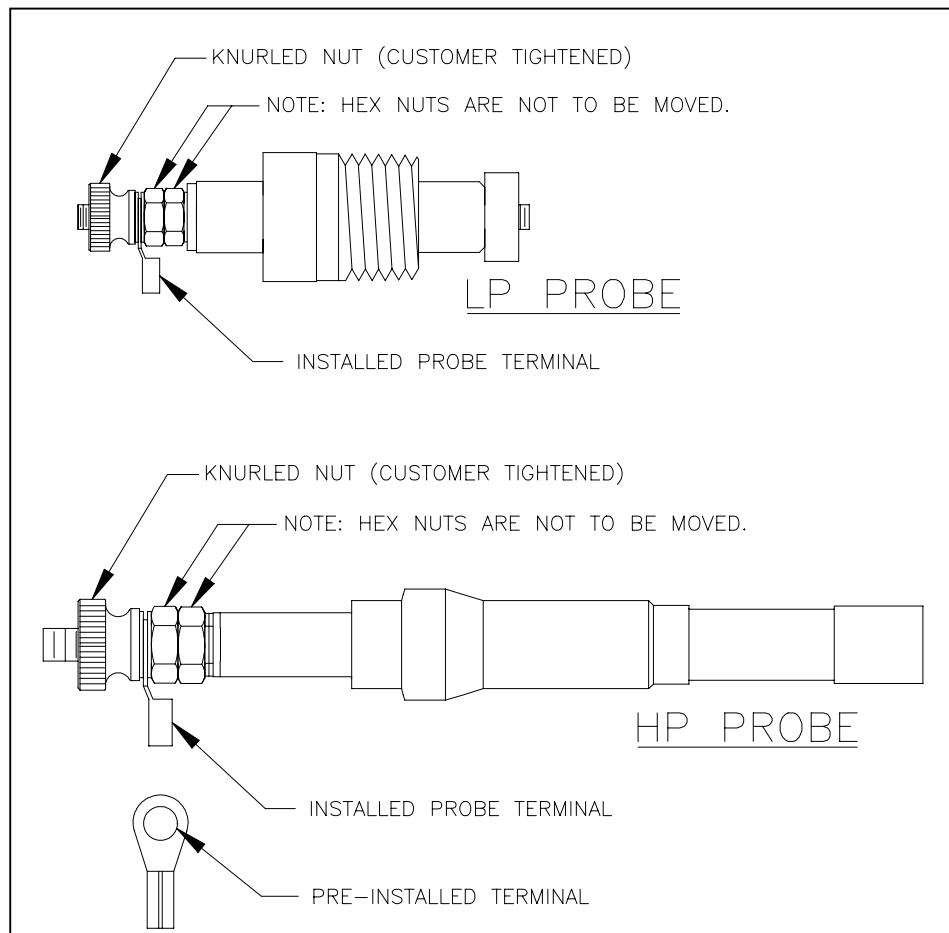

Figure 2 – Probe Assembly
For all other applications, probes with the zirconium oxide (ceramic) insulators must be used. The high pressure (HP) probes are easily recognized by the brazing between the insulator and the body (Fig 2). The two styles of probes are not interchangeable and will not fit in a receptacle designed for the other. LP probes use a threaded fitting, the HP a compression fitting.